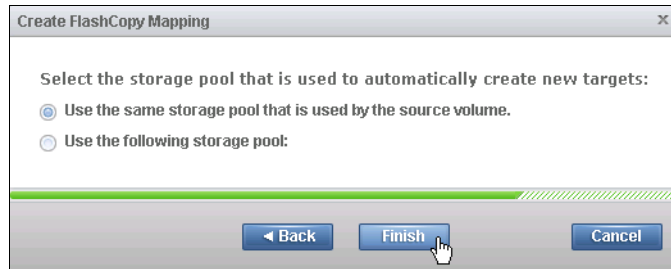

Figure 11-22 Choose use the same storage pool with the source volume
6. You can choose from which storage pool you want to create your volume. As shown in Figure 11-22 on page 347, you can select the same storage pool that is used by the source volume. Click **Finish**.